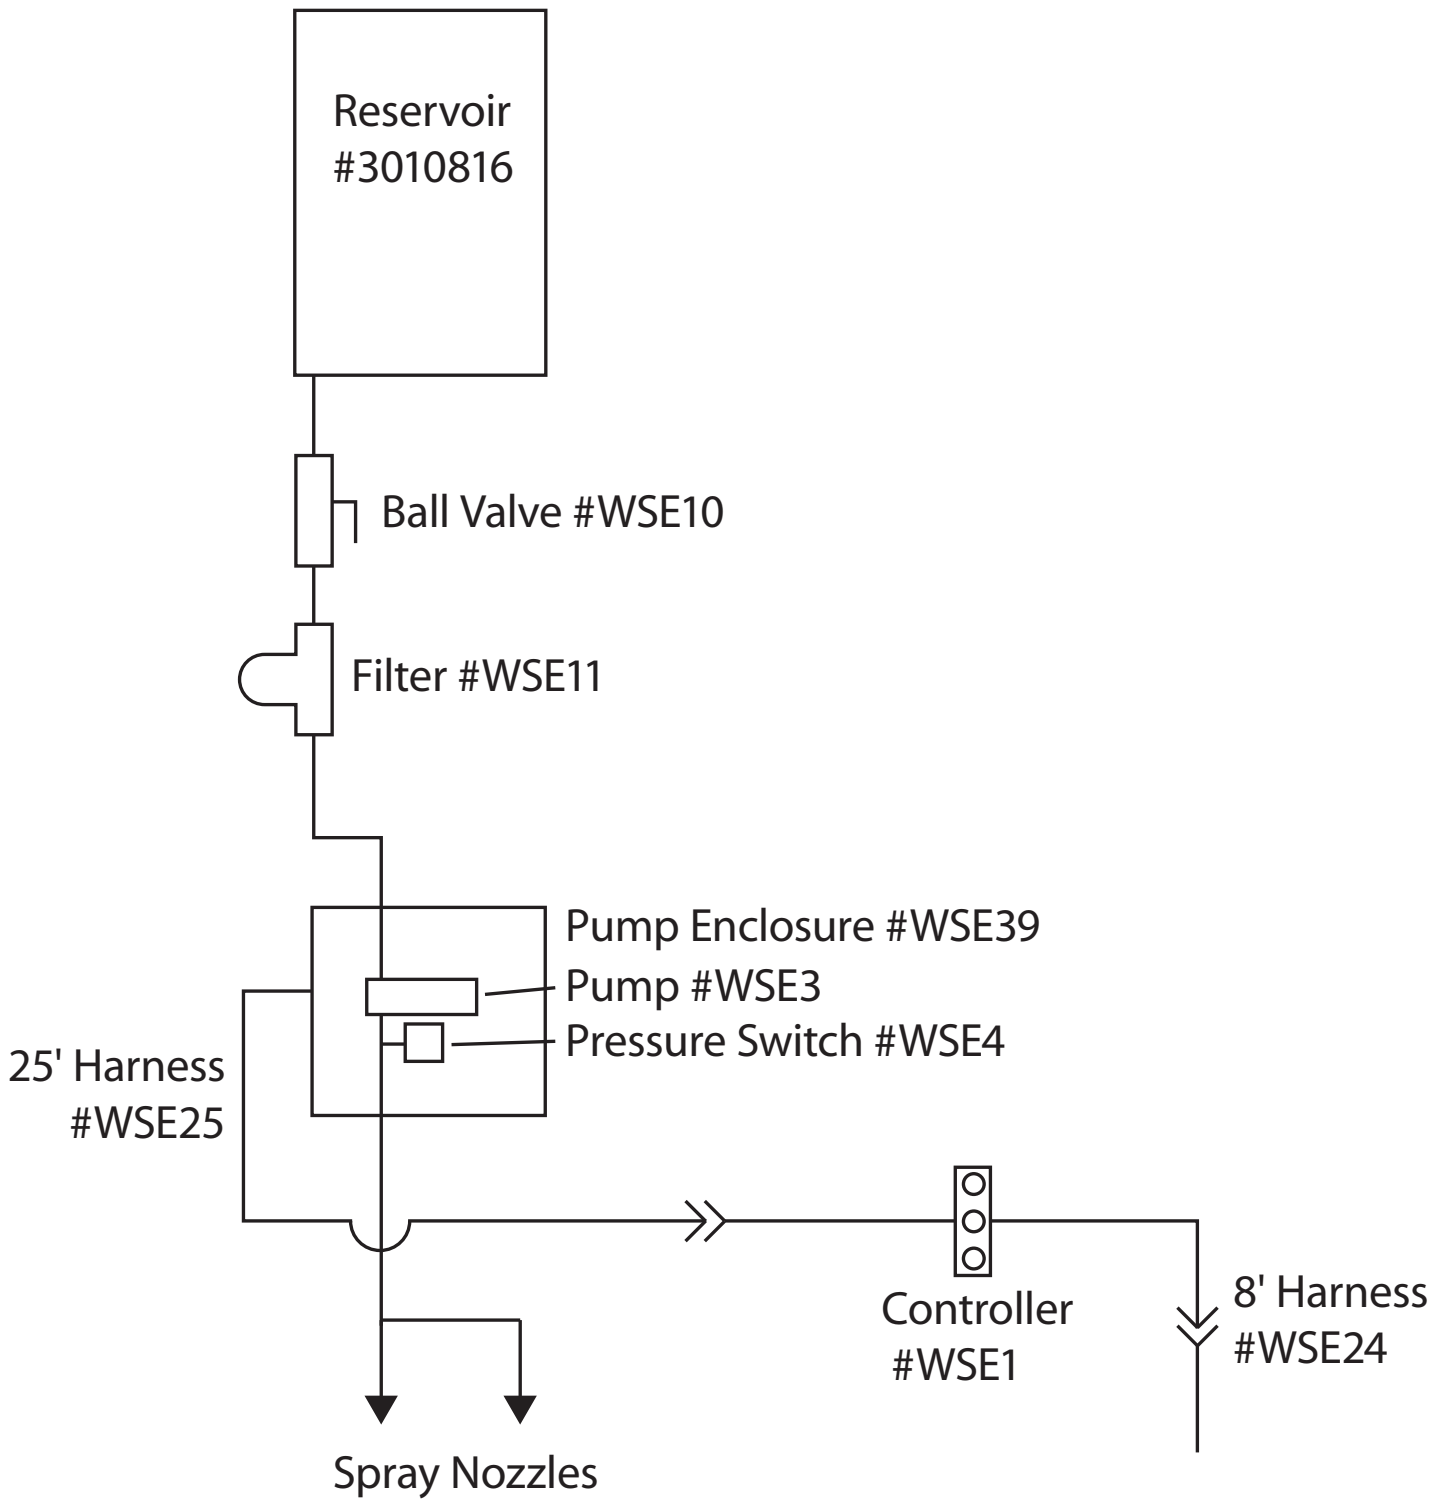

Fig. 8 Plumbing Dia.
8. Plumb the system according to the plumbing schematic using the supplied fittings, hose, and hose clamps. See Figures 8, 9 and 10. **DO NOT use Teflon tape on threads as it will stretch and damage threads. Use liquid thread sealant only.**